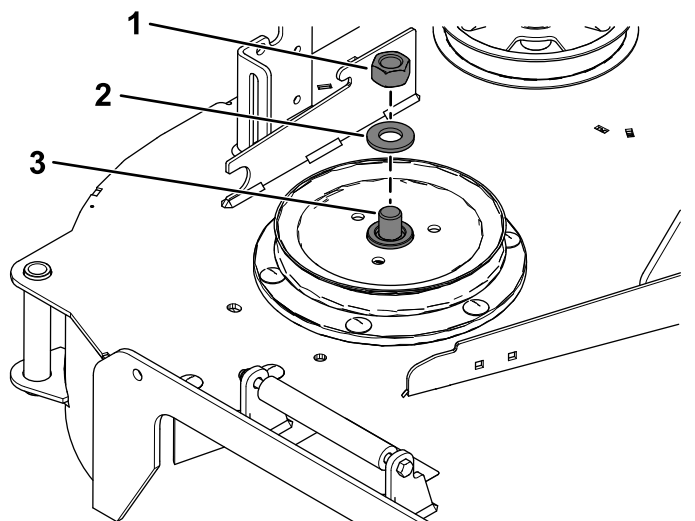

Figure 19
- Use a wrench (1-1/2 inches) to hold the spindle shaft, as you remove the hex nut (3/4 inch) and washer from the spindle shaft (Figure 19).